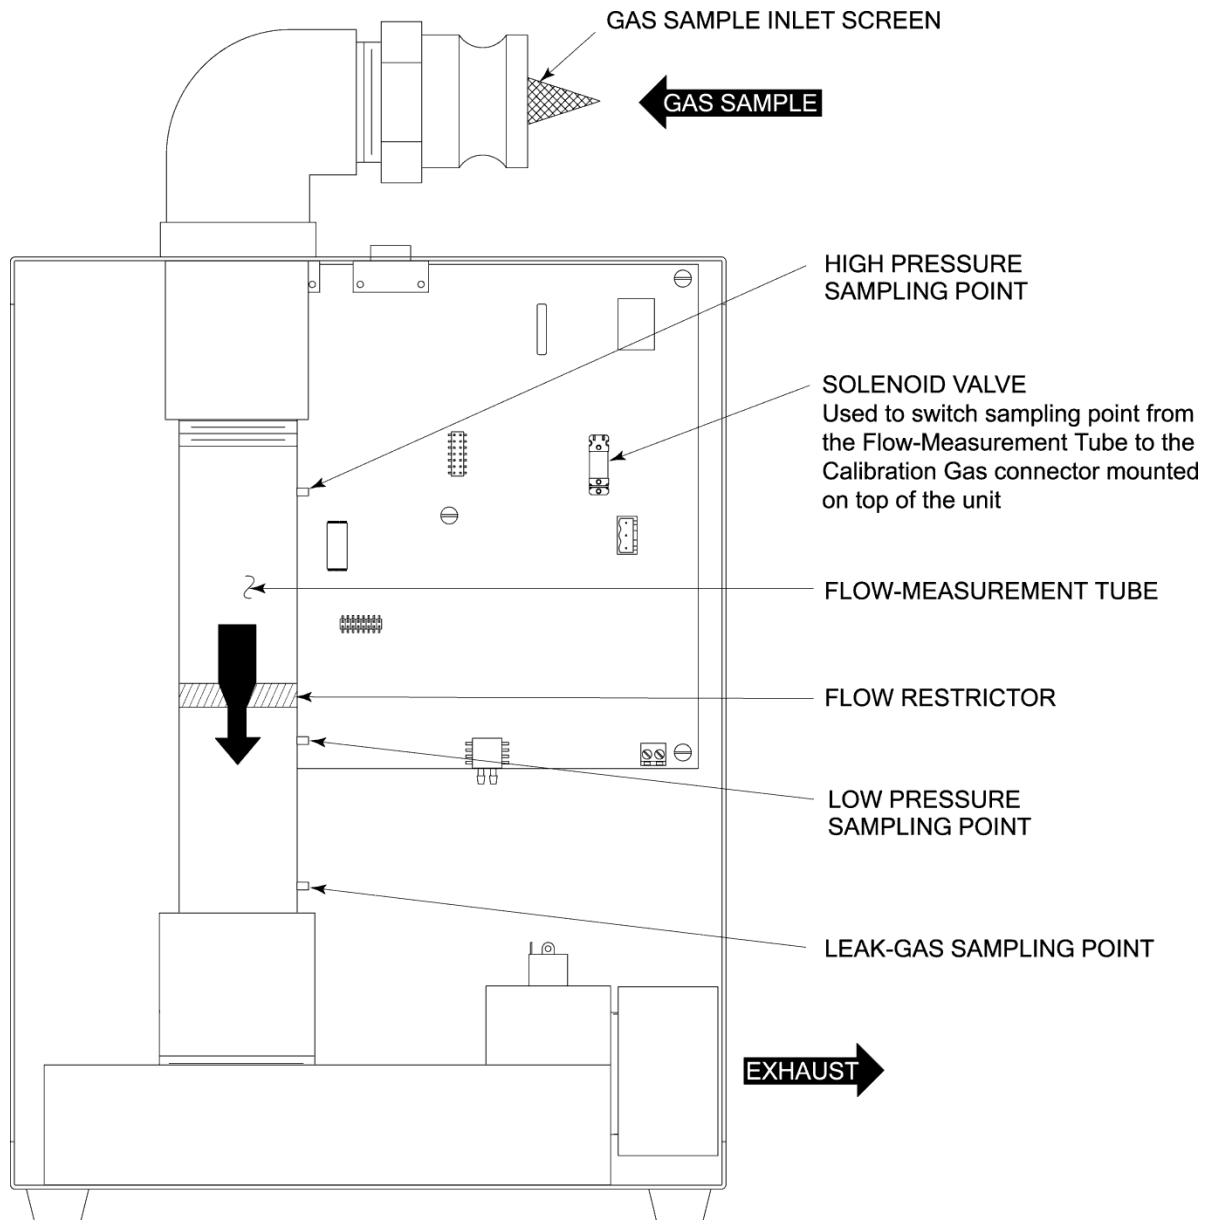

Figure 4-8. Gas Flow System
4. With a fully charged battery pack, the measured flow rate should be greater than 9 cfm. If not, perform the following (see Figures 4-8 and 4-9):